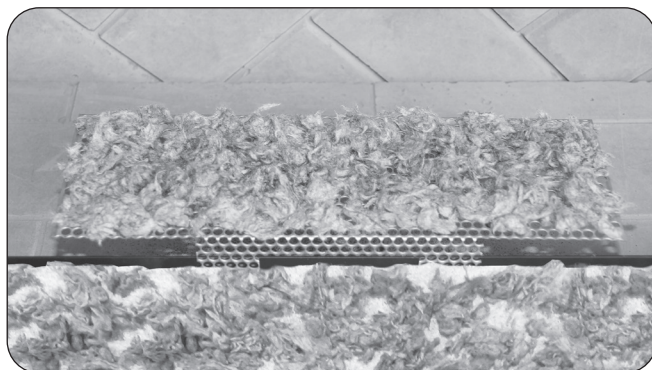

Fig. 13-2 Cover screen with embers
2. Cover the surface of the ember screen with the additional glowing embers as shown in Fig. 13-2.